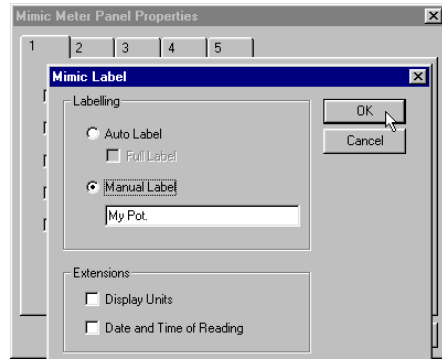

FIGURE 51 Creating a meter label
- iv. In the Mimic Label dialog box that opens (Figure 51), select **Manual Label** and type **My Pot.** (or any text you want to appear beneath the meter), then click **OK**.